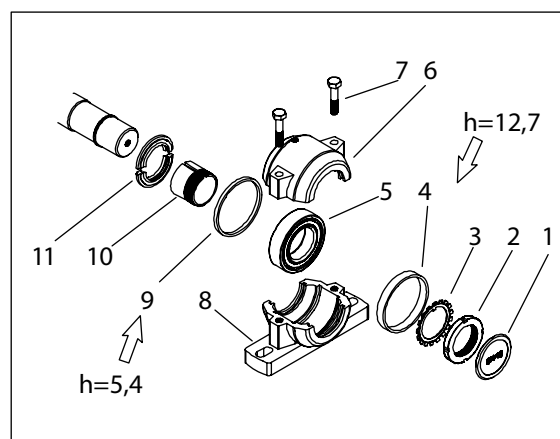

Fig. 28. Bearing, feeder side
2. Remove the fastening bolts M10 (7) and the upper bearing housings (6).
5. Bend the claw of the securing ring (3) out from the notch on the axle nut and open the axle nut.
6. Remove the axle nut, securing ring, spacer ring (4), bearing (5), spacer ring (9), and tightening cone (10).
7. Install the tightening cone, spacer ring (9), and bearing on the disk shaft. Note the thickness of the spacer ring (9) - see Fig. 28.
11. Bend one claw of the securing ring (3) into a notch on the axle nut.
12. Install the other half of the dust cover and end plate on the bearing housing. Install the spacer ring (4) on the shaft.